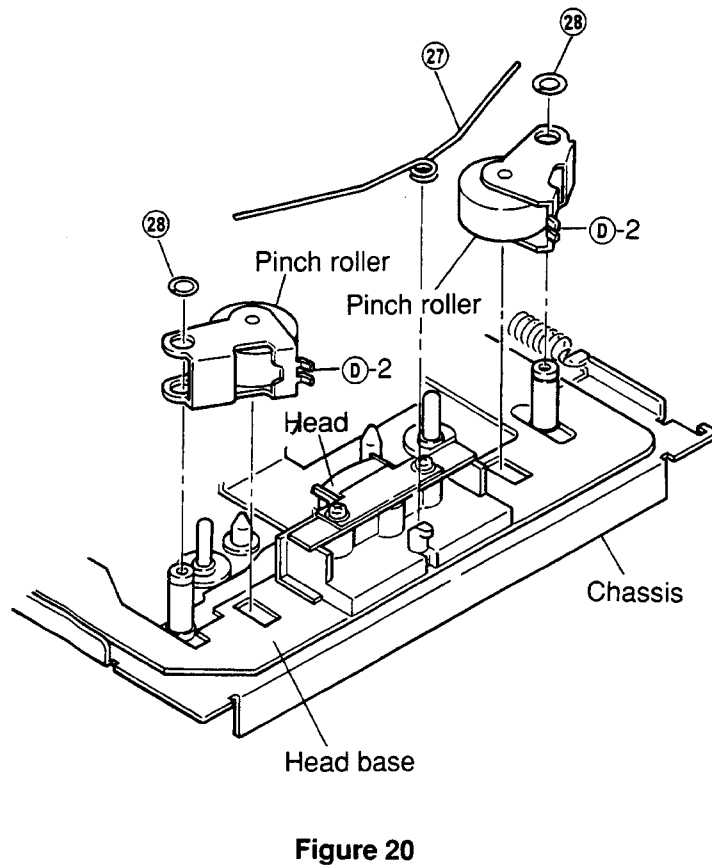

Figure 20
- (1) Remove pinch roller spring ②⑦ as shown in Figure 20.
- (2) Remove M3.1 two lock washers ②⑧ and remove the pinch roller as shown in Figure 20.
- (3) Mount the pinch rollers following the removal steps in the reverse order.
Apply insulation coating to the position ②-2 of the pinch roller as shown in Figure 20.